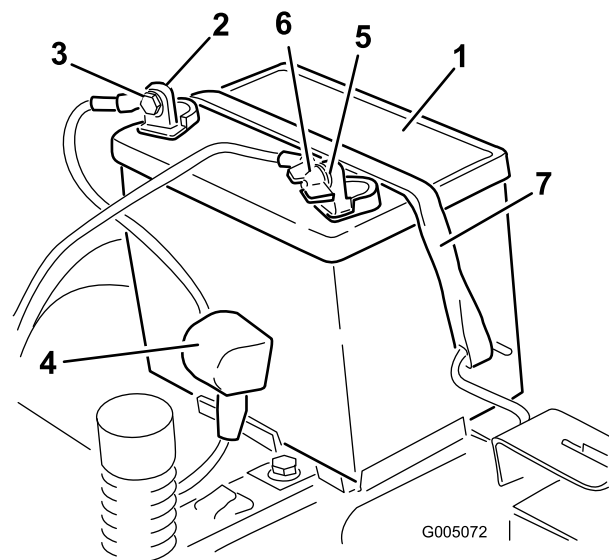

Figure 38
4. Disconnect the negative (black) ground cable from the battery post (Figure 38). Retain all fasteners.
5. Slide the rubber cover up the positive (red) cable. Disconnect the positive (red) cable from the battery post (Figure 38). Retain all fasteners.
6. Remove the battery hold-down and lift the battery from the battery tray (Figure 38).
1. Position the battery in the tray (Figure 38).
5. Secure the battery with the hold-down (Figure 38).